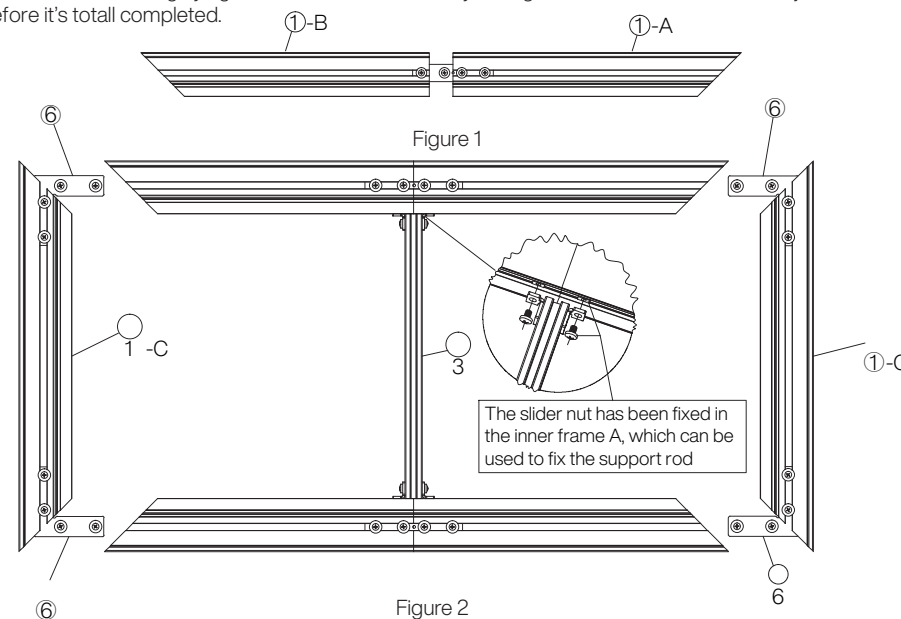
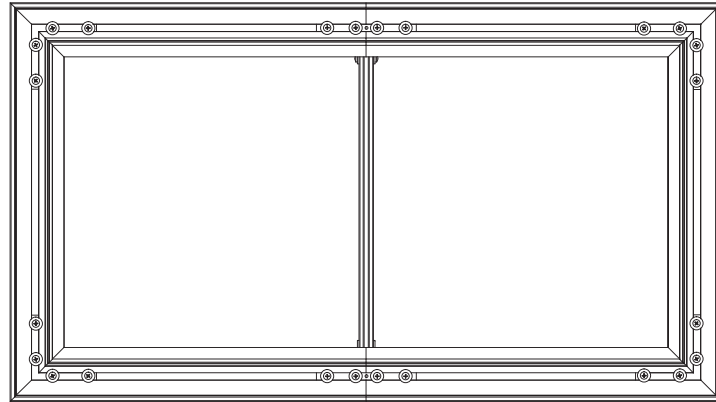

Figure 2
Figure 3
2.3 Insert the 4 corner connectors into the inner frame C (Figure 2)
2.4 Assemble the four inner frames and struts as shown in the figure below, and lock them with screws after the inner frame is assembled (Figure 2, Figure 3);